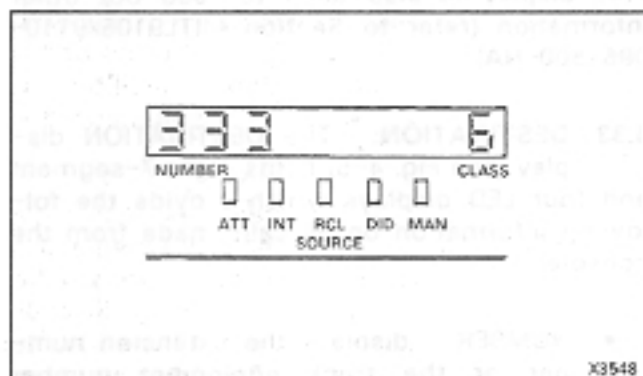

Fig. 4-4 Source Display
4.32 SOURCE: The SOURCE display (see Fig. 4-4) consists of eight 7-segment and five LED displays, which provide the following information on all calls directed to the console: